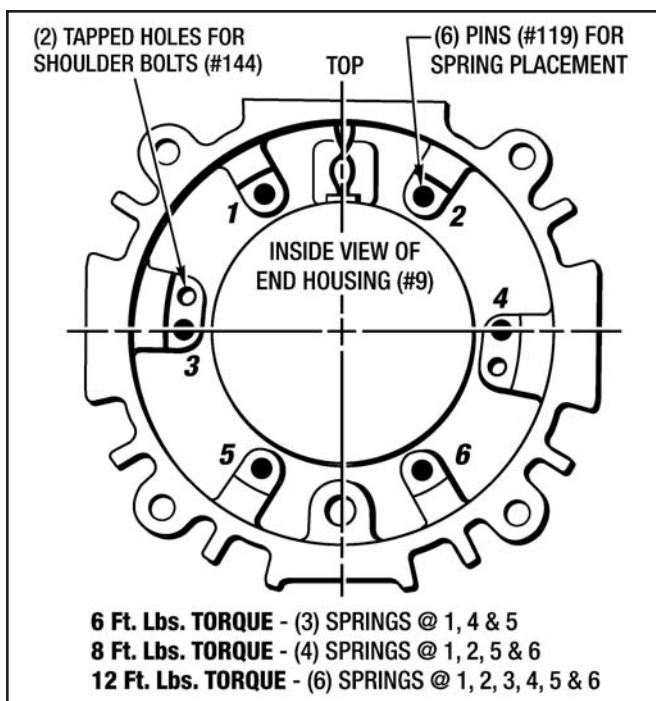

Figure 7.6 - Spring Placement for MSB2
2. Remove the Armature Plate (#56) and the Springs (#36) from the Pins (#119). See Figure 7.6 for spring quantity and location.
6. Set the End Housing (#9) so the Coil (#284) is facing upright. Place the correct number of Springs (#36) into the End Housing. (See Figure 7.6)
7. Set the Armature Plate (#56) and Armature Ring (#58) in position on the Springs (#36). Make sure the (2) holes in the Armature Plate (#56) for the (2) Shoulder Bolts (#144) are aligned with the (2) tapped holes in the End Housing (#9) as shown in Figure 7.6.
8. Install the (2) Shoulder Bolts (#144). Use **Primer T** and **Blue Loctite #242** on the threads.
9. Insert the (4) Screws (#169) along with (4) Lockwashers (#129) into the End Housing (#9).